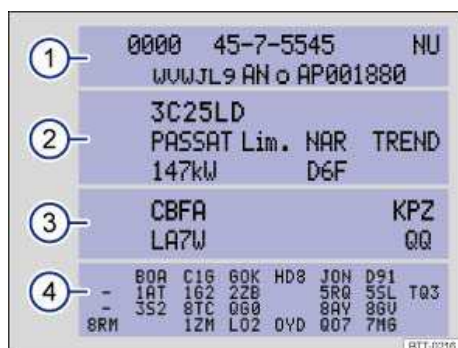

Fig. 15 Vehicle identification label: Shown in the example with engine identification code CBFA 3.
The vehicle identification label ⇒ fig. 15 is affixed to the area of the spare wheel well underneath the luggage compartment floor panel and contains the following information:
- (1) Vehicle identification number (VIN)
- (2) Vehicle type, power output, and transmission
- (3) Electric motor and transmission identification codes, paint number, and interior type ⇒ fig. 15.
- (4) Optional equipment and part numbers